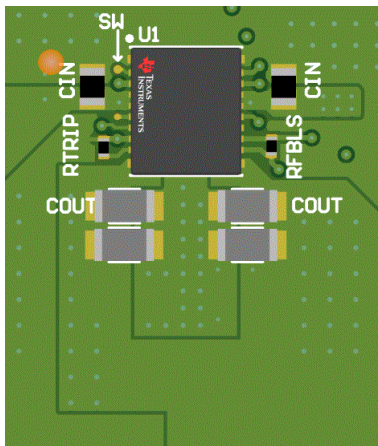

Figure 10-1. Recommended Layout Top Side
- See Figure 10-1 for the layout recommendation.